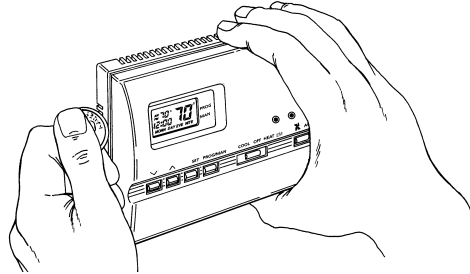

FIGURE 2
4. Remove the cover using a coin or screwdriver (Figure 2).